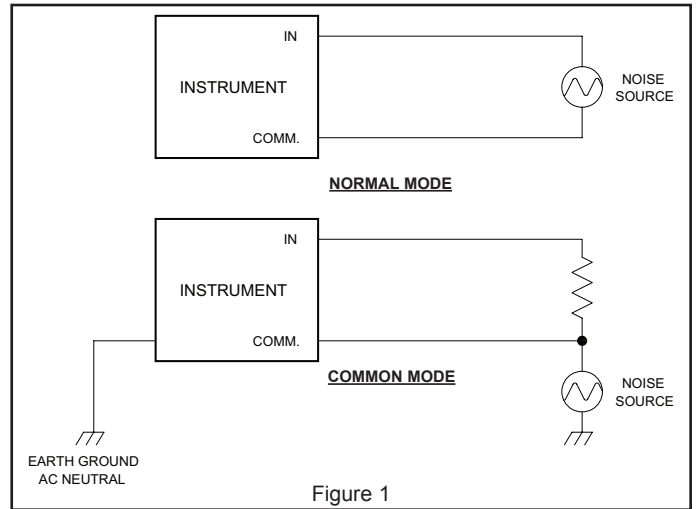

Figure 1
2. Noise can enter via the input leads. Here, there are two modes (See Fig. 1) by which the noise can enter. Normal mode, which means the noise enters on the input lead, with respect to the instrument common; and common mode, which means the noise enters on both the input and the instrument common with respect to earth ground (power line neutral). It is recommended that sensor input and control input wiring not be run in the same conduit or raceways with power lines or current carrying control lines. It is also recommended that these lines be kept away from inductive loads such as motors, solenoids, relays and contactors. For best results, it is recommended that two-conductor shielded cable be used to connect these inputs. The shield should be connected to the input common at the instrument only. In addition, the input common should only be connected to machine ground (earth) at one point, preferably a direct connection to the input common terminal.